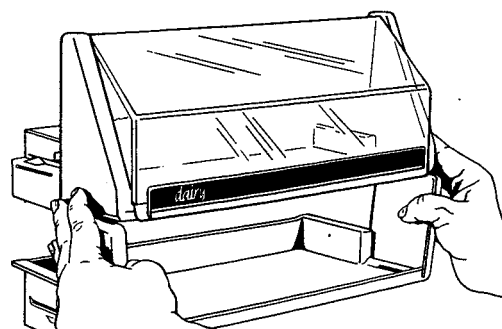

Figure 13.
- d. Flex out slightly to release second serving shelf tab from dairy module slot. See Figure 13.